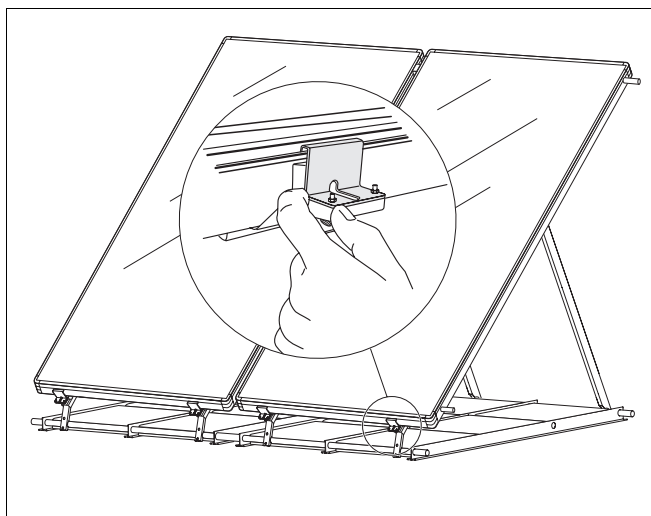

Fig. 38 Securing collectors
- ▶ Tip the collector clips slightly forward and insert them into the groove in the collector frame (Fig. 38).